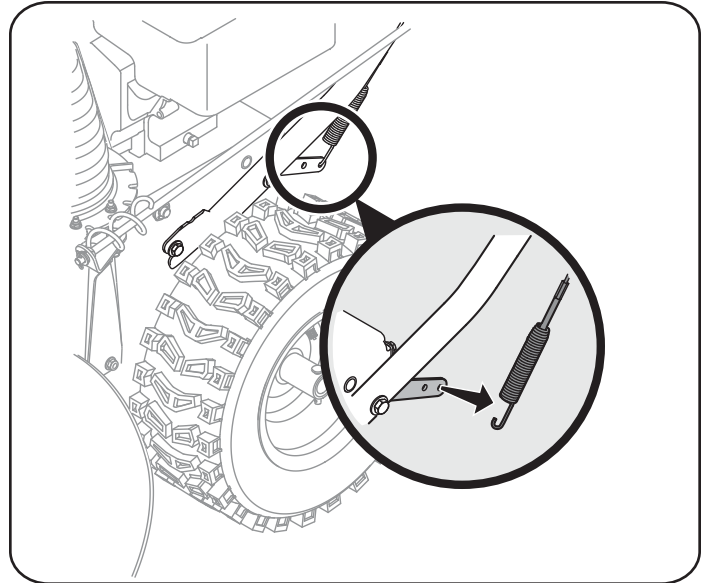

Figure 10
- Loosen the nylock nut on the drive control cable and unthread the cable one full turn. See Figure 10.
- To readjust the control cable, unhook the spring (found on the end of the auger cable) from the auger actuator bracket. See Figure 10.